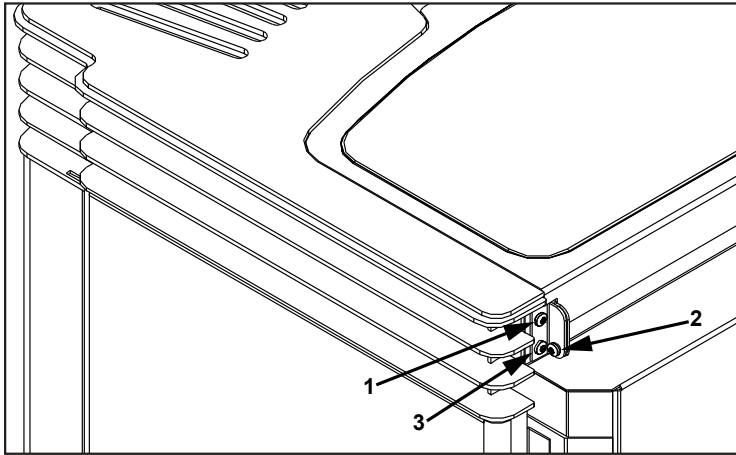

Figure 31: Installing Hopper Lid.
1. Attach the hopper brackets to the back of the unit with a screw in each top holes of the brackets (#1 in Figure 31). Do not tighten these screws until all six (6) screws are in place.
2. Lay the hopper lid in place, slide the bushing into the bracket, and attach the lid to the brackets (#2 in Figure 31). The screw must go through the bushing in the bracket then into the hopper cover.
3. Install the screw in the bottom hole on both brackets (#3 in Figure 31).
4. Let the hopper lid lay flat on the stove top then tighten the four (4) bracket screws.